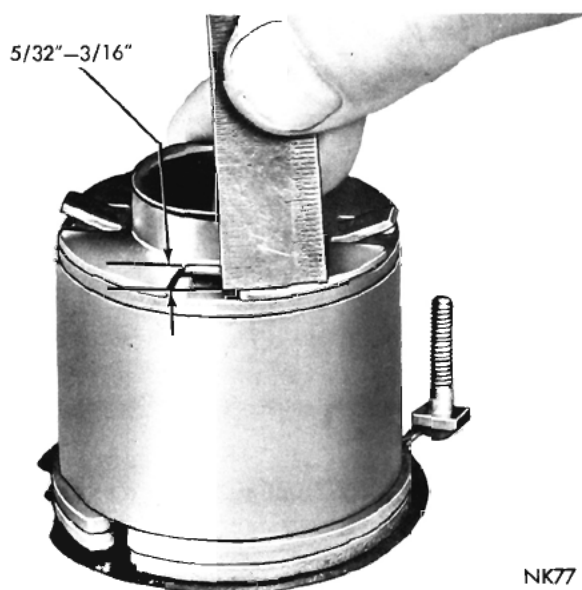

Fig. 20—Checking Height of Solenoid Coil Retainer Tangs
(8) Bend the four (4) Tangs of the coil retainer "up" to a measurement of  $\frac{5}{32}$ " to  $\frac{3}{16}$ " above the surface of the retainer (Fig. 20), to ensure higher compression and a more positive ground.
(9) Install the starter solenoid return spring into the bore of the moving core.